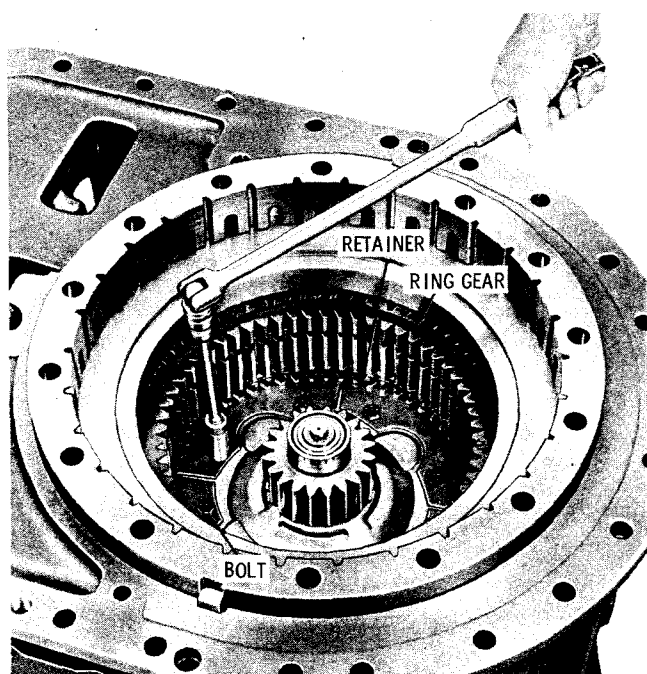

Fig. 7-24. Installing low-range ring gear retainer bolts
(8) Install four retainers into a groove in the low-range ring gear. Secure the retainers with eight 3/8-24 x 3/4-inch, self-locking bolts (fig. 7-24). Tighten the bolts to 41 to 49 pound feet torque. Be sure that the splines of the intermediate-range carrier and the low-range ring gear are alined.